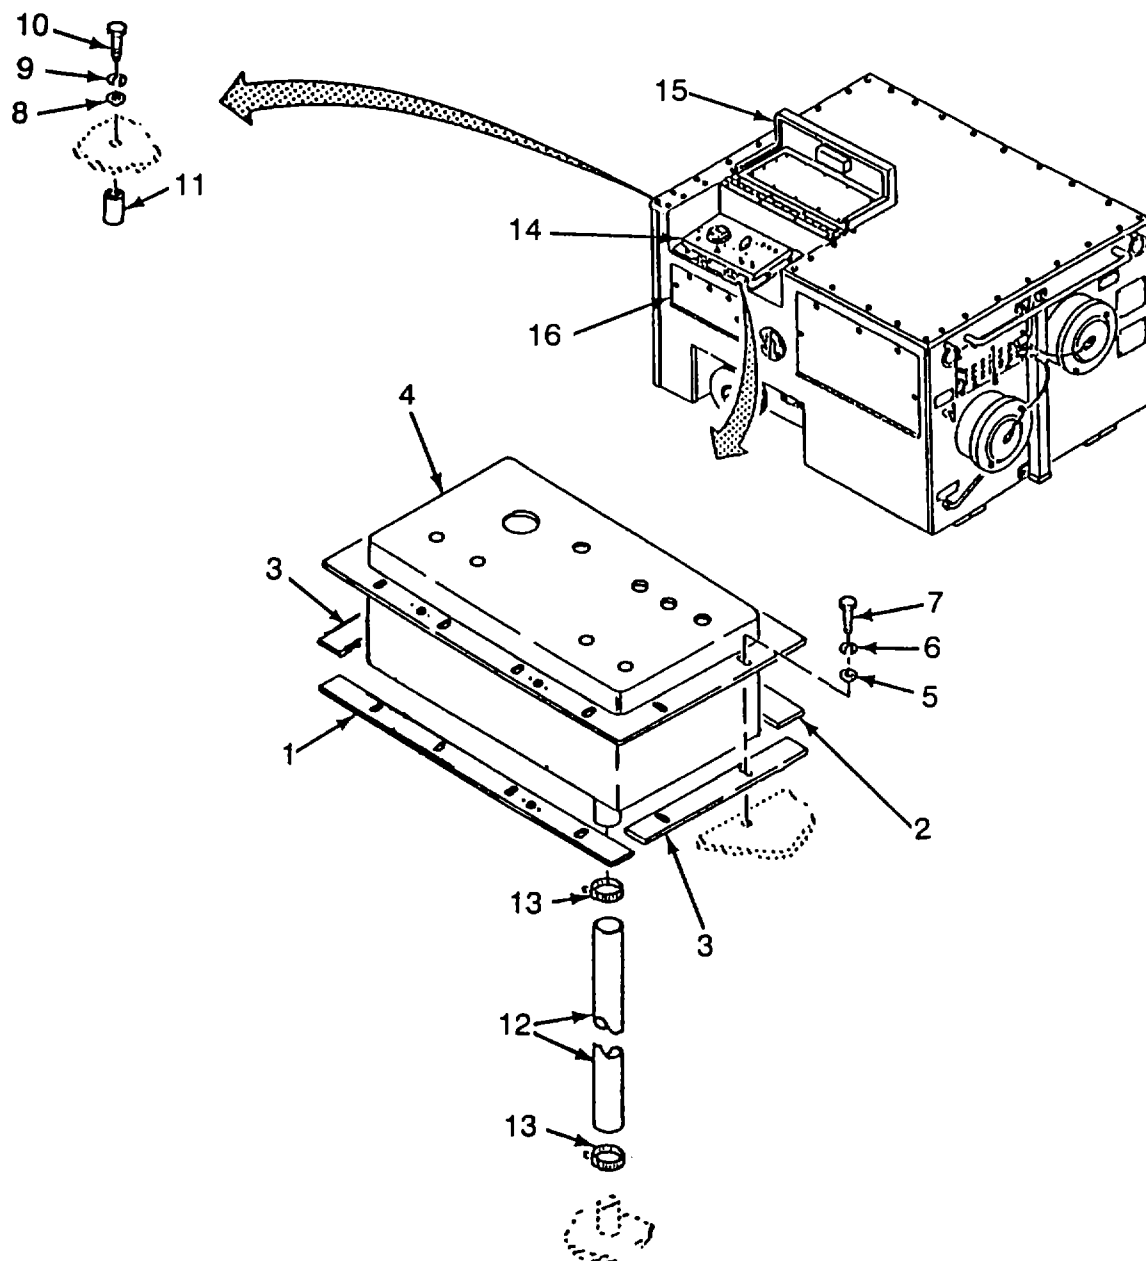

Figure 5-5. Control Box Installation
- e. Installation (Refer to Figure 5-5)
- (1) Install gasket (1) (Item 14, App F), gasket (2) (Item 16, App F) and two gaskets (3) (Item 15, App F).
- (2) Insert control box assembly (4).
- (3) Install twelve flat washers (5), twelve lockwashers (6) and twelve screws (7).
- (4) Install flat washer (8), lockwasher (9), screw (10) and bar (11).
- (5) Install drain tube (12) and secure with two clamps (13).
- (6) Close control box lid (14), control panel cover (15) and door (16).